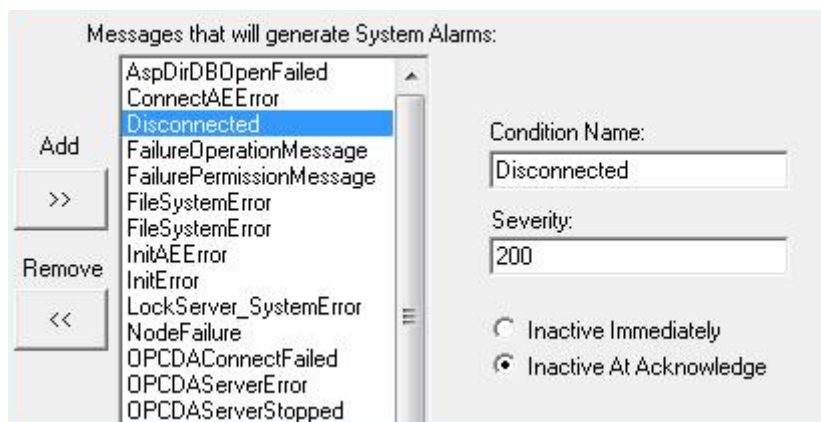

Figure 63. Messages that will generate System Alarms
- 4. Select Disconnected in the Message that will generate System Alarms list, see Figure 63.